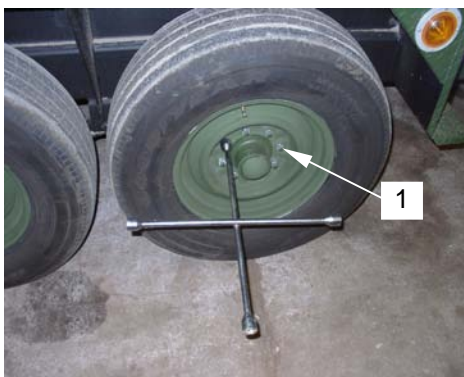

Figure 24. Removing the Rim
- c. Loosen lug nuts (**figure 24, item 1**) on the rim in a star pattern.